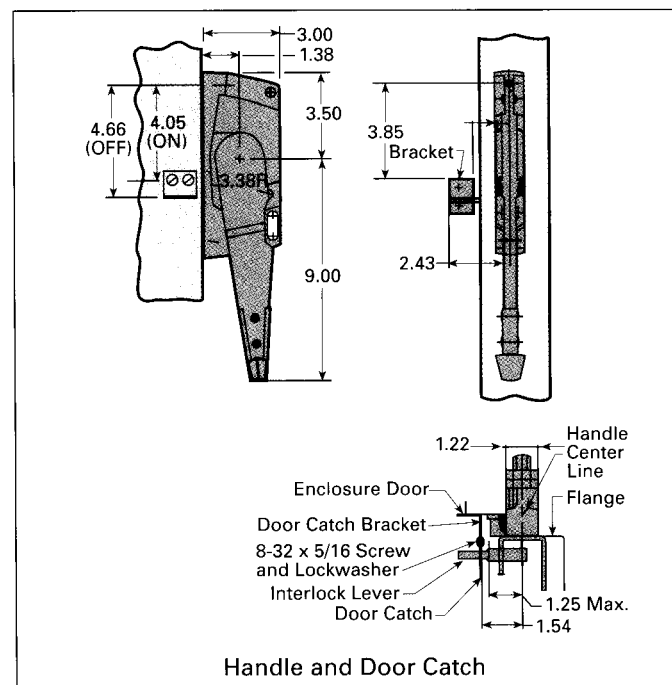

Figure 4
- Turn handle ON and attempt to open door. The interlock should hold the door closed. If the door can be opened, readjust the door catch upward in its slot. Repeat Steps A and B to insure the door cannot be opened when the handle is in the ON position. Figure 4 shows the location of the handle and door catch when mounted in the enclosure.